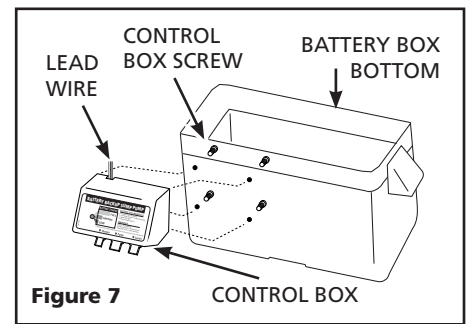

Figure 7
1. Attach control box to the side of battery box as shown in Figure 7. Place battery in box, attach red cable to positive battery post and black cable to negative post. Put lid on box.